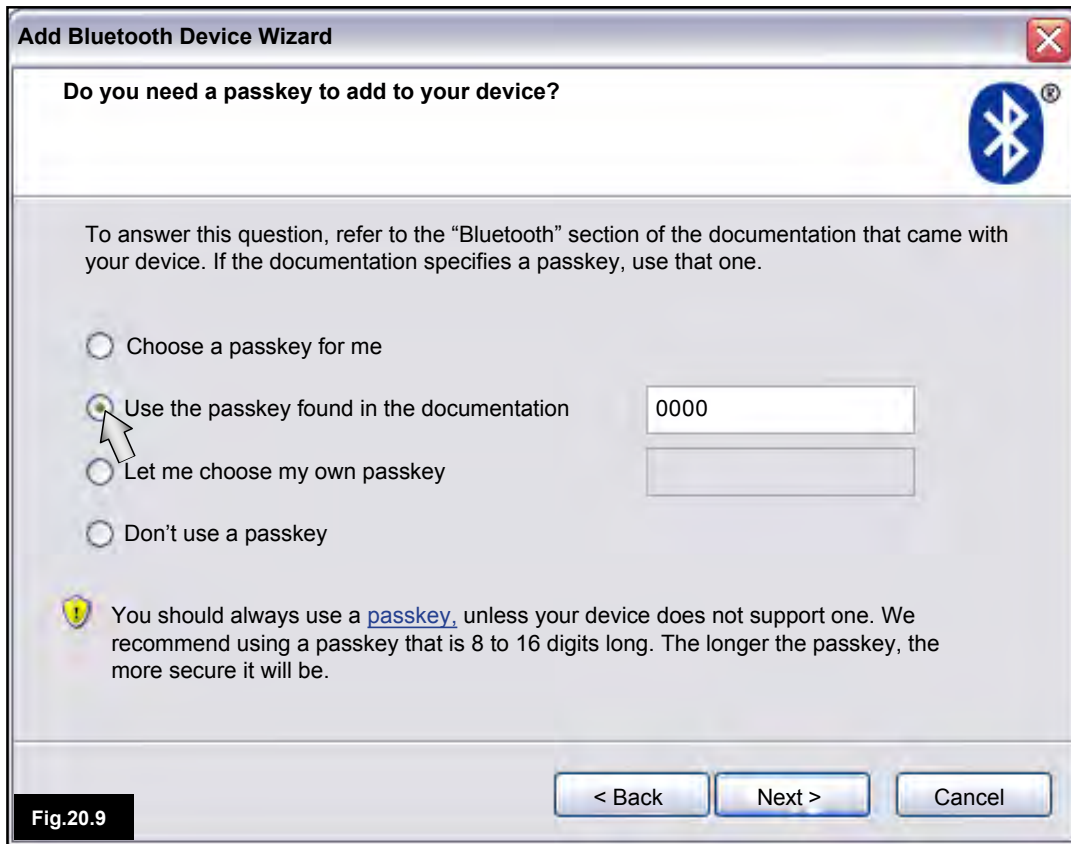

Fig.20.11
13. Once connection is complete the Finish screen will be displayed (Fig 20.11).
14. Click on "Finish" (Fig 20.11).